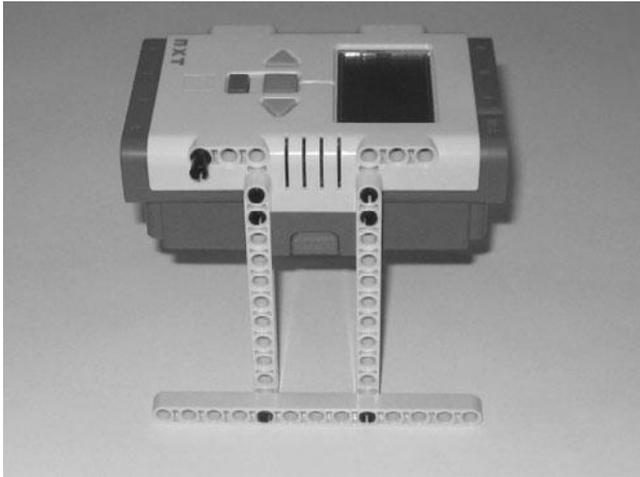

Figure 12.4
Step 3: Connect one additional connector peg with friction directly to the NXT Brick, as shown in Figure 12.4.